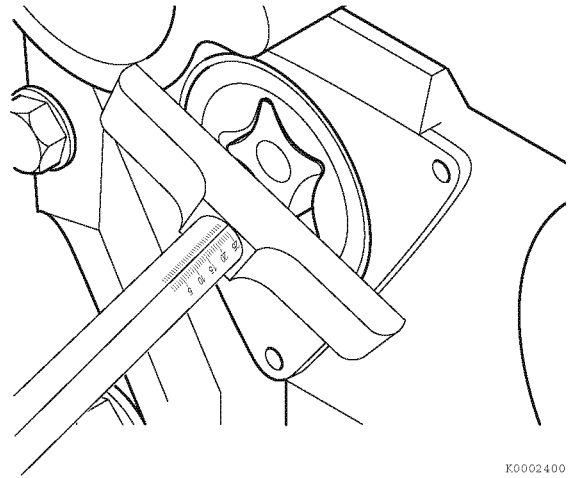

Figure 6-73
5. Measure the distance between the oil pump cover mounting surface and each rotor using a depth micrometer (**Figure 6-73**). Record the measurement.